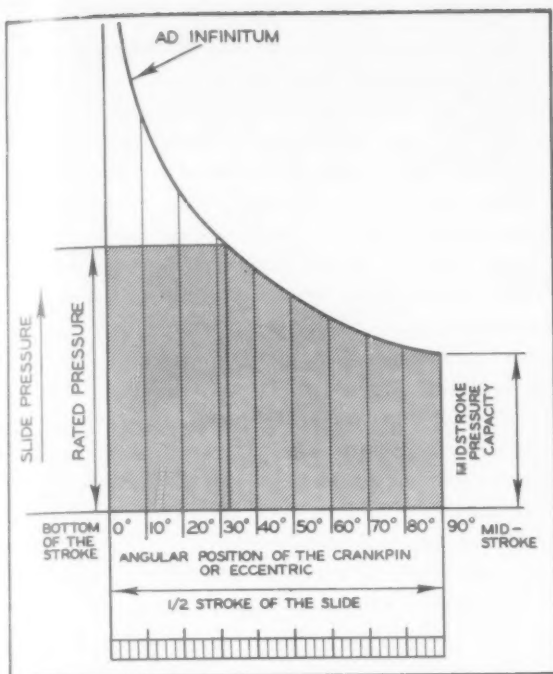

Fig. 3. Above is shown the pressure which the slide exerts at each angular position of the crankpin or eccentric of the press.
The basic formula (3) enables a chart, Fig. 3 to be drawn for each press giving the pressure which the slide is expected to exert at each angular position of the crankpin or eccentric in the press.
Thus, at each angular position of the crankpin or eccentric in the press the slide will be at a certain position from the bed of the press as it is shown in Fig. 3. For each press a separate chart must be made as its curve depends on the stroke of the slide and the "pitman ratio."